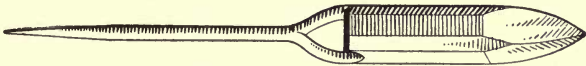

FIG. 13.—Copper.
**The Soldering Iron.**—The soldering iron is one of the first tools a plumber has to master. This tool is sometimes called a “copper bit” as it is made of copper; and so throughout this book the words “soldering iron,” “copper bit,” “iron,” and “bit” are used synonymously. There are several different-shaped irons in common use today, but an iron shaped like the one in Fig. 13 is the one for use in the